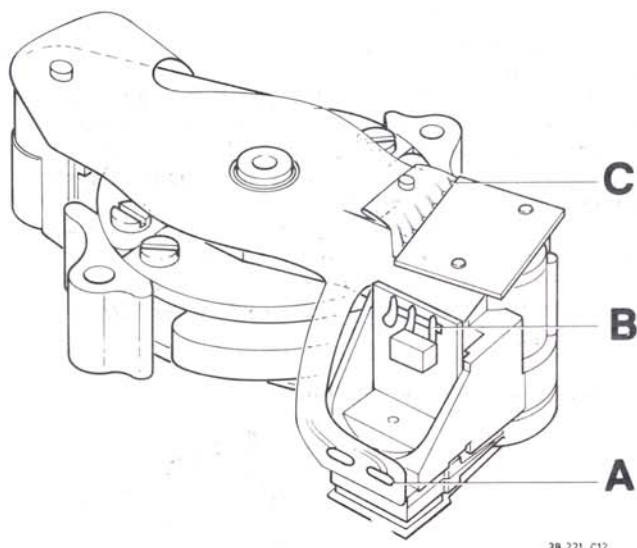

Fig. 3
- Desolder the connections A (see Fig. 3) of the flexible PCB.
- Apply the connections A and B (see Fig. 3).